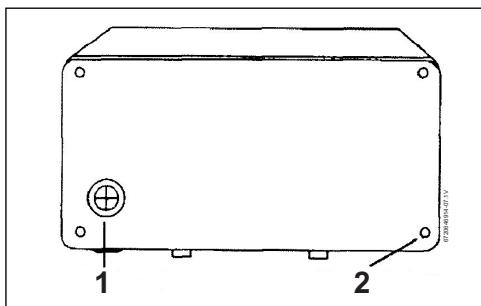

Fig. 6 Back of unit
- If it is going through the back of the cover unit, cut through the grommet on the backplate with a sharp knife. Make sure that you do not remove the grommet from the backplate (Fig. 6):